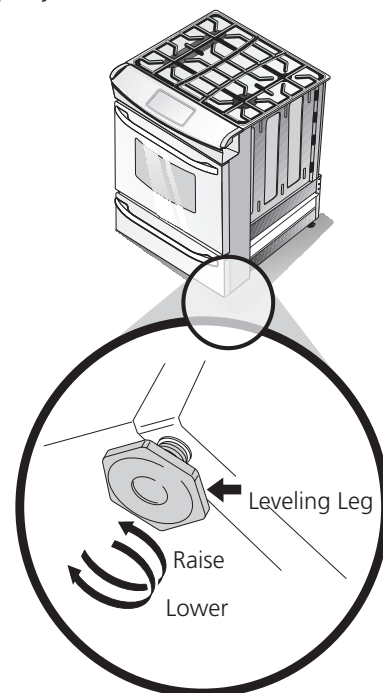

Figure 12
4. Level range if necessary, by adjusting 4 leg levelers with wrench (Figure 12). A minimum clearance of 1/8" (0.8 cm) is required between the bottom of the range and the rear leg levelers to allow room for the anti-tip brackets.